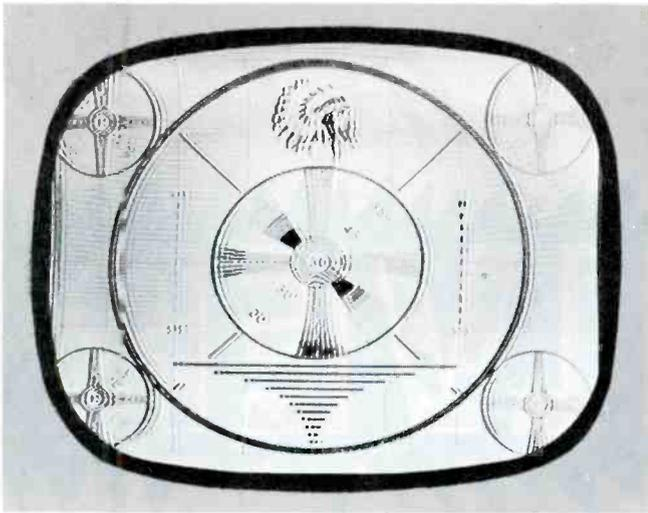

Fig. 3. Tunable Ghosts Due to Video IF Regeneration.
Fig. 3 is an illustration of tunable ghosts due to regeneration in the video IF strip. The major characteristics of this type of interference are: (1) spacing between ghosts will vary with setting of the fine-tuning control, (2) shading will vary with setting of the fine-tuning control, (3) reversing of the contrast may occur with setting of the fine-tuning control. This type of interference is usually caused by a faulty tube in the video IF stages, a faulty bypass capacitor in the video IF strip, or poor alignment of the RF or IF section of the receiver.